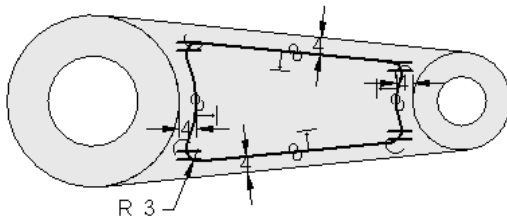

Figure 5-64 Sketch after adding the fillet, dimensions, and constraints
- Invoke the **Sketch** tool and draw a sketch on the top plane, refer to Figure 5-64.
8. Apply the dimensions and constraints to the sketch to fully define it, as shown in Figure 5-64.